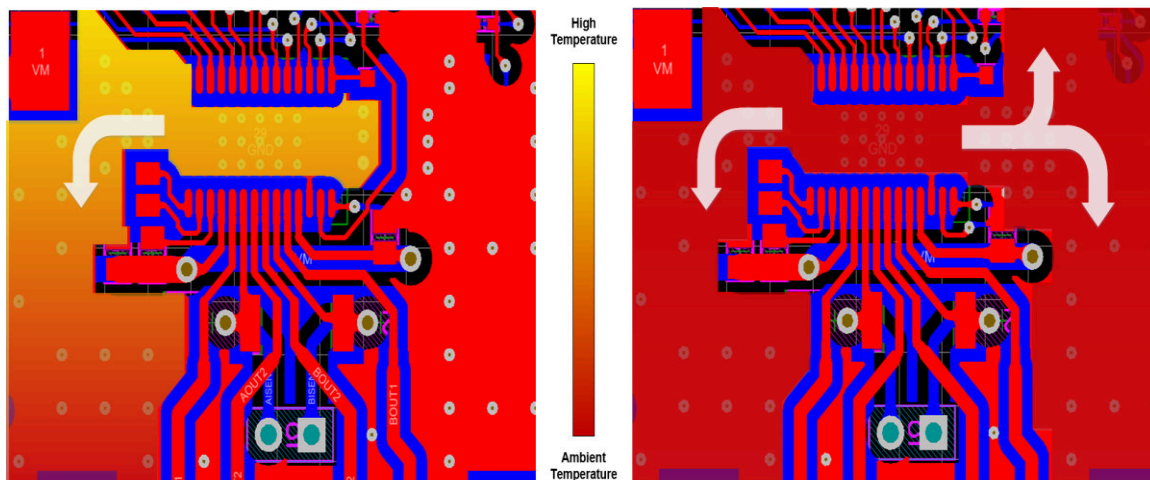

Figure 7-5. Broken Ground vs Continuous Ground Pour Heat Map
- Try to use a big unbroken single ground plane for the whole system / board. The ground plane can be made at bottom PCB layer. Figure 7-5 shows an example of temperature rise from constricted versus continuous ground pours underneath the driver.